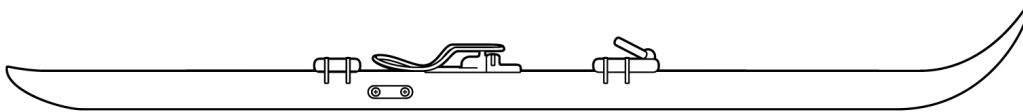

Figure 4. Military Skis.
**Military Skis.** The all-terrain military-type skis (Figure 4) are intended for use in tactical operations for mass movement of troops over level or hilly snow-covered terrains. The ski has an outer plastic composite material construction with a foam core, steel edges, and an aluminum tail protector. The tip of the ski has a hole for towing the skis, and the tail is notched to accept the strap on a ski climber. The skis are 78 inches in length.